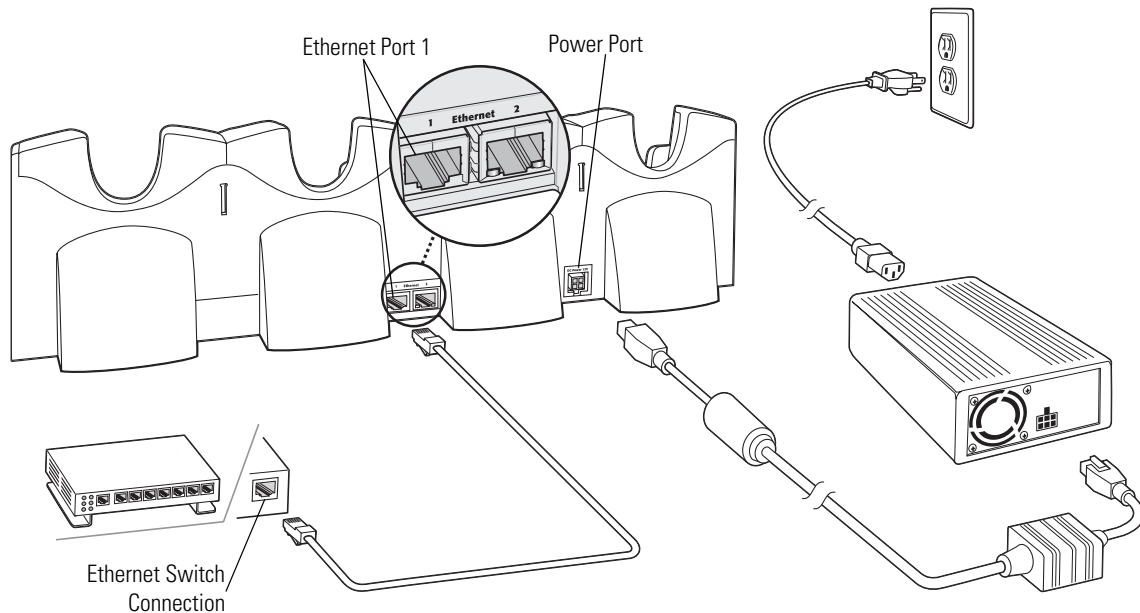

Figure 2-5. Four Slot Ethernet Cradle Connection
- 1. Connect the first Ethernet cradle to power and to the Ethernet Switch as shown on Figure 2-5 on page 2-9.